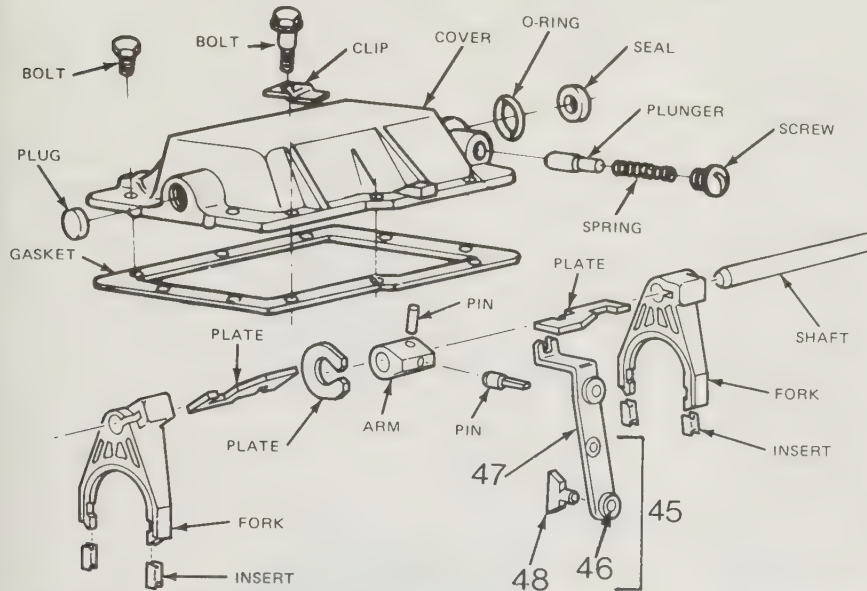

Fig. 6.7. Top transmission cover and components (Sec. 3). (For numbered items see the caption to Fig. 6.4)
- 17 Turning to the top cover assembly (Fig. 6.7), first remove the